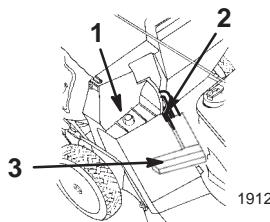
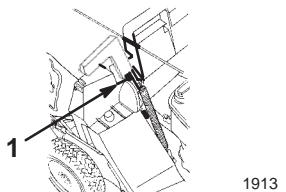

Figure 10
Figure 11
- Ensure that the discharge door handle is fully forward and that the pin is engaged in the catch (Fig. 10).
- Slide the hole in the bag frame onto the retaining post on the discharge tunnel (Fig. 10).
- Open the discharge door by pulling the discharge door handle forward until the pin clears the ramp on the bag door and moving the handle rearward until the pin locks in the bag notch (Fig. 11).
- Pull the discharge door handle up and out of the bag notch (Fig. 11) and pull it forward until it engages the catch (Fig. 10).